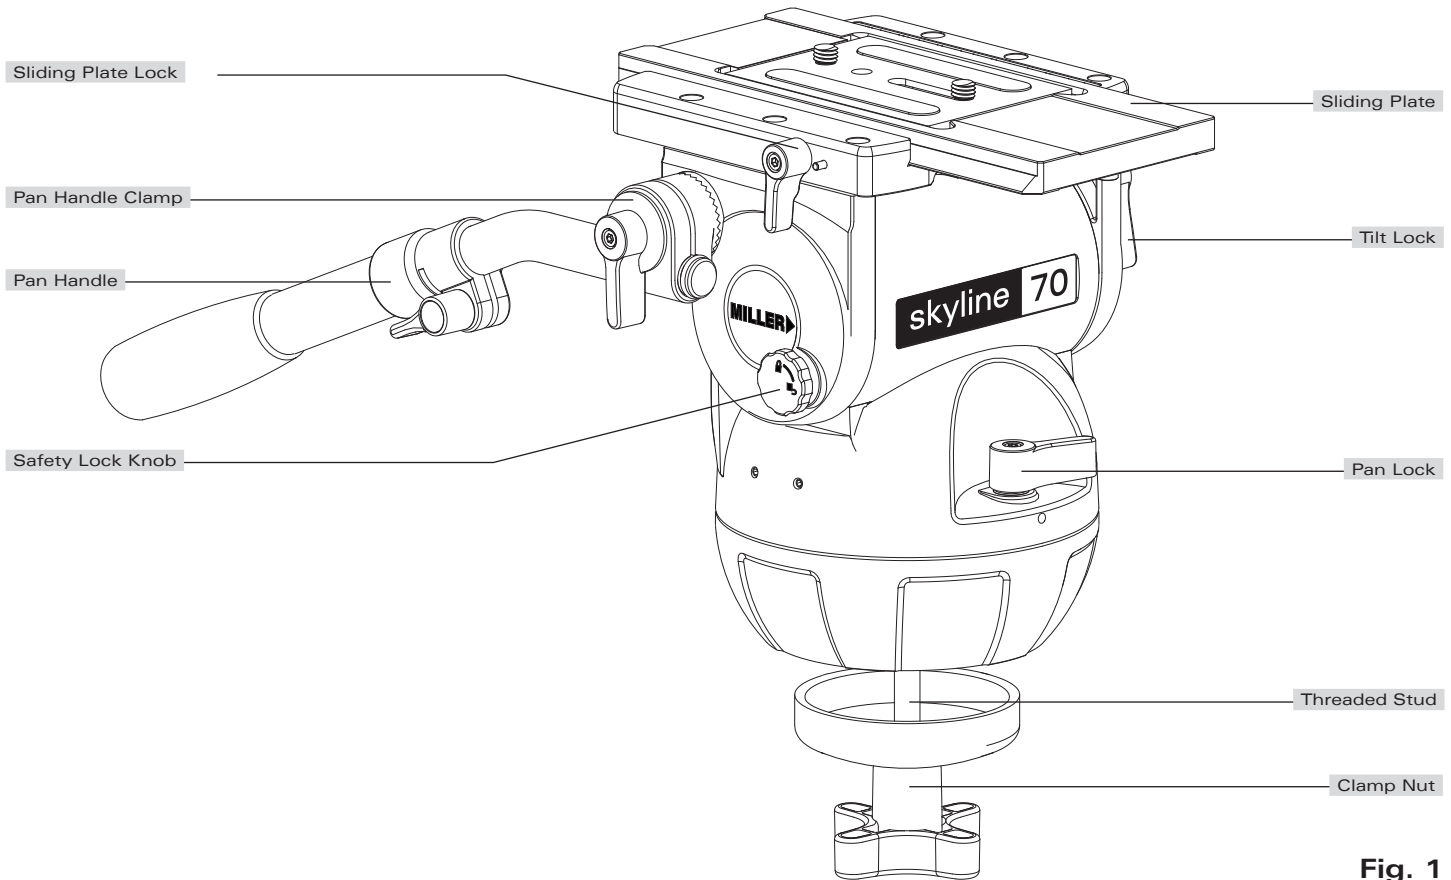

Fig. 1
- 1.3 Set the initial control settings as follows - see Figure 1 & 2: